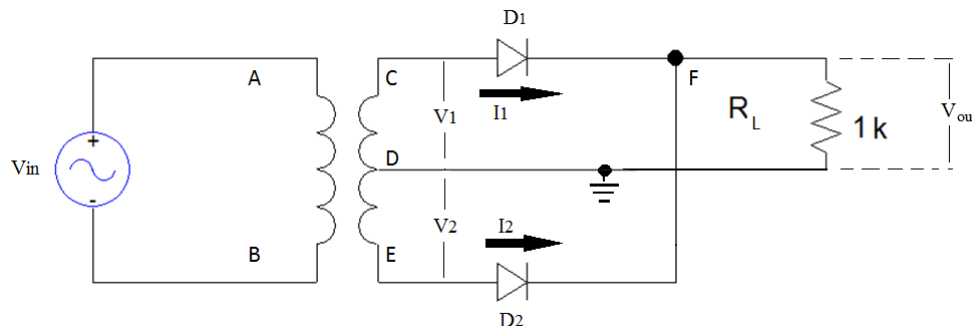

Fig. 2. Center-tapped full-wave rectifier circuit.
To form the connections required for the center-tapped full-wave rectifier circuit, one has to connect the circuit shown in Fig. 2, considering the C.T. terminal is grounded.
- 1- Connect the circuit diagram shown in Fig. 2. Consider point C as ground.